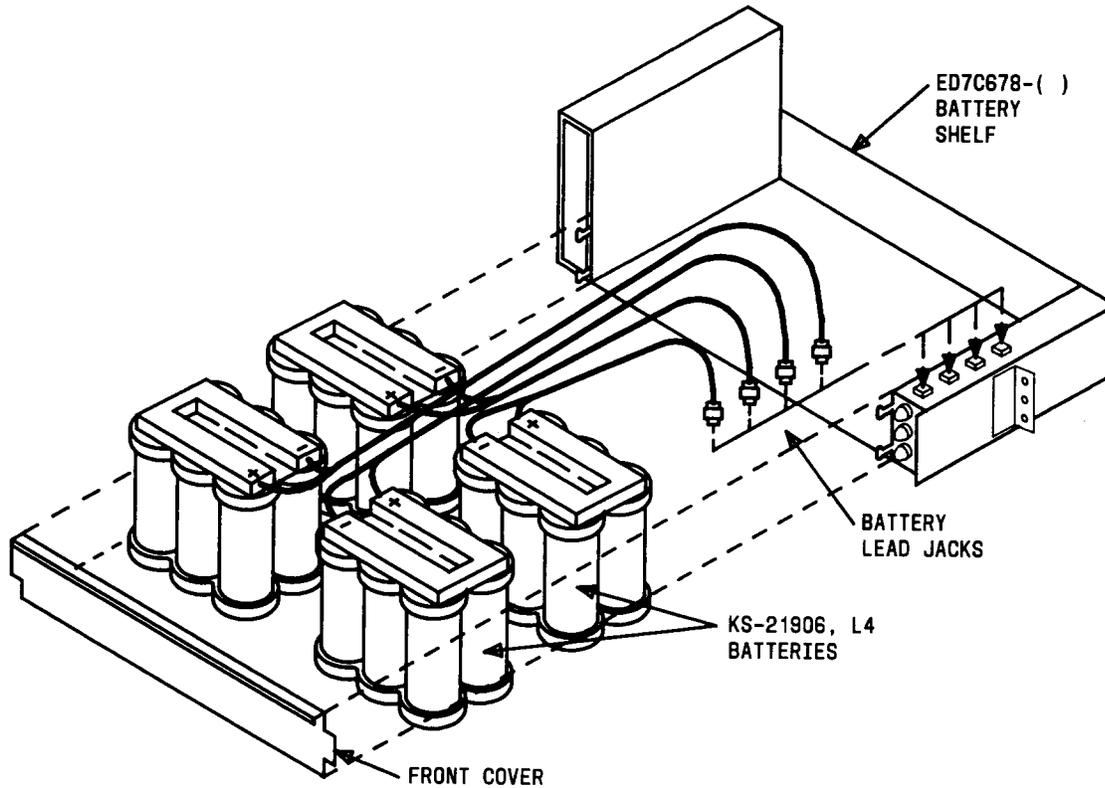

Fig. 3—Battery Placement and Connections
24. Place batteries on battery shelf and dress battery cables as each battery pack is placed on shelf (Figure 3).